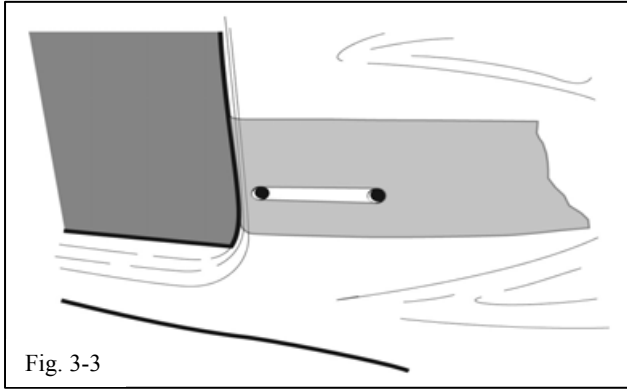

Fig. 3-3
- (d) On the painted surface of the bumper covers, apply masking tape over each set of 1/4" holes marking the ends of the slots. (Fig. 3-3) Using the top and bottom of each hole, scribe a horizontal line showing where to cut the slots.